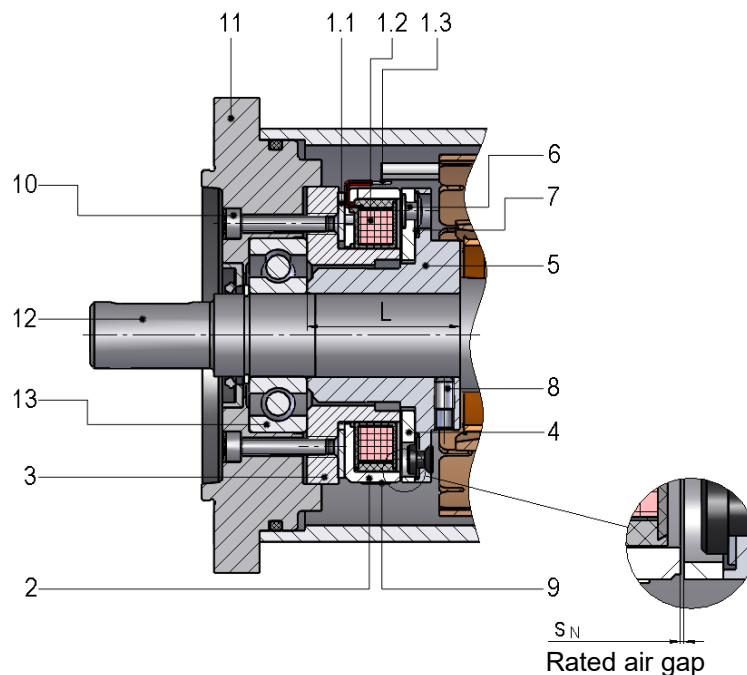

Fig. 14/1: Permanent-magnet single-face brake 86 611..H00 with armature 400
- i** The distance L (see Fig. 14/1) between the outer ring of the ball bearing (13) (limit stop for inner ring (3) of brake) and the stop shoulder of the machine shaft (e.g. motor shaft) (12) (limit stop for flange hub (5)) must be dimensioned in such a way that the required rated air gap s_N (see Table 37/1 – Technical specifications) is automatically adjusted when the brake is mounted to the machine (e.g. motor).
List of reference numerals in Fig. 14/1: